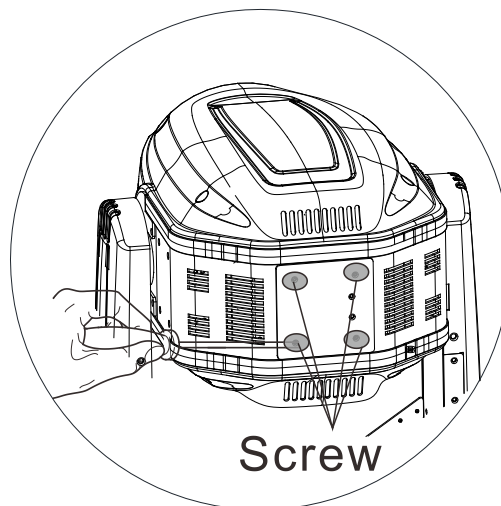

Figure 1
1. Remove the fixture head covers using a screwdriver (Figure 1).